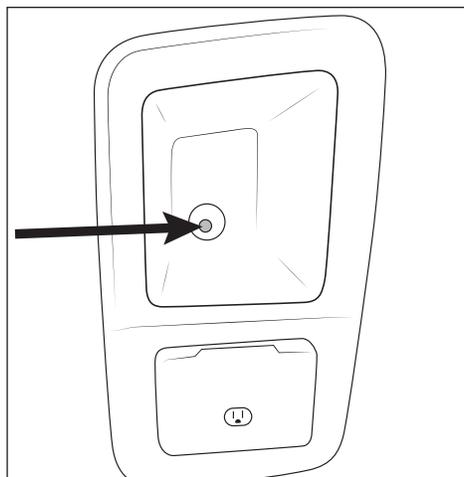

*Figure 1*
2. Remove the rubber insert from the bottom of the tray above the radio (fig. 1).